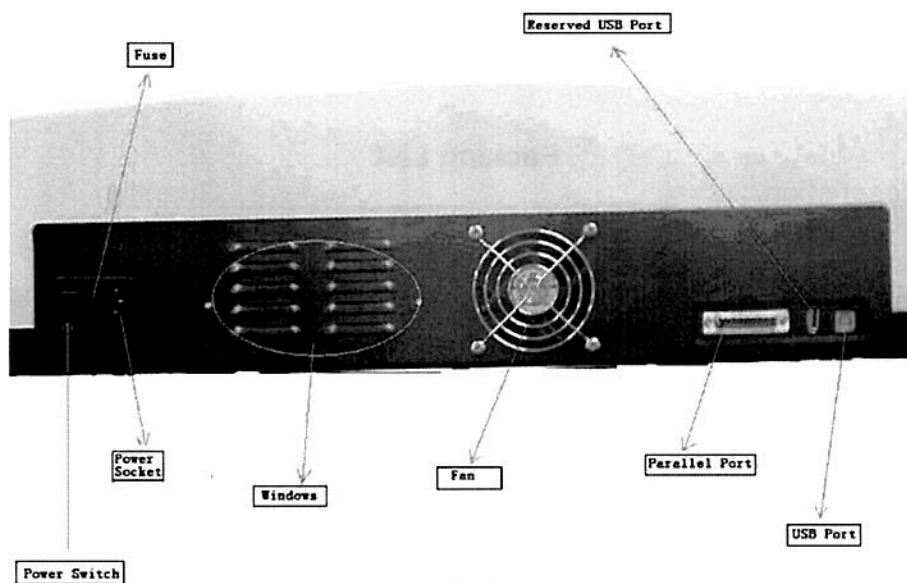

Fig1
This instrument (Fig 1) is a double beam, general purpose instrument designed to meet the needs of the Conventional Laboratory, This instrument is ideal for various applications, such as: Chemistry, Biochemistry, petrochemistry, Environmental Protection, Food and Beverage Labs, Water and Waste Water Labs and other fields of quality control and research.
Turn on spectrophotometer by pressing the Power Switch (IO)(see Fig1). The instrument starts to initiate and the steps are as below: